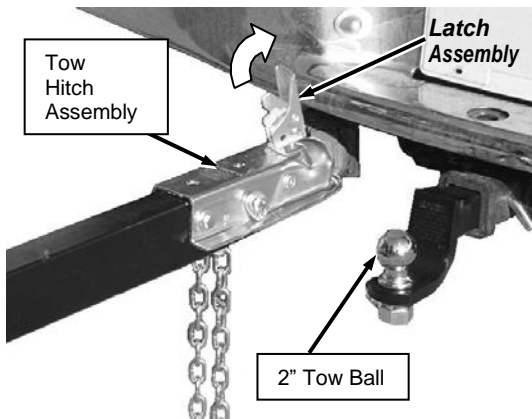

Figure 30
1. Pull the latch assembly on the Tow Hitch Assembly up and into the open position. Position the hitch coupler of the Chipper over and onto the tow vehicle's tow ball (must be a 2" tow ball) (**Figure 30**).